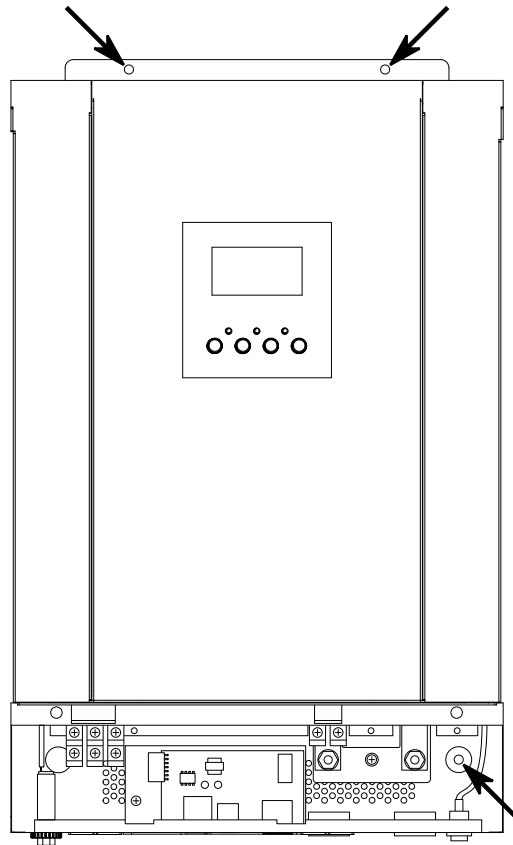

*Figure 4: Minimum distance to walls and other objects*
- Be sure to keep other objects and surfaces at least as far from the installed inverter as shown to the right in *Figure 4* to guarantee sufficient heat dissipation and to have enough space for removing wires